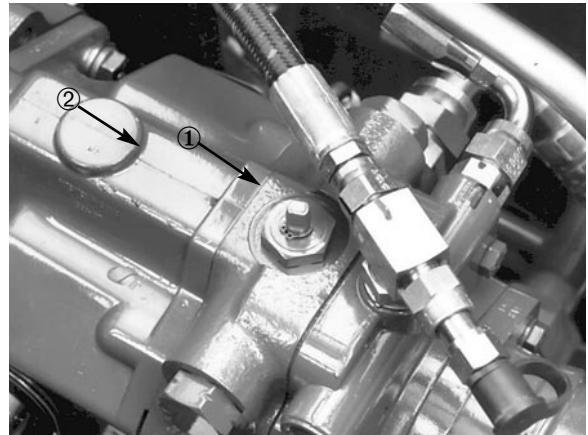

Figure 18
- Turn the by-pass valve 90 degrees (Fig. 18). Opening the valve opens an internal passage in the traction pump, bypassing hydraulic oil.. Because the oil is bypassed, the traction unit can be moved without damaging the hydraulic system.